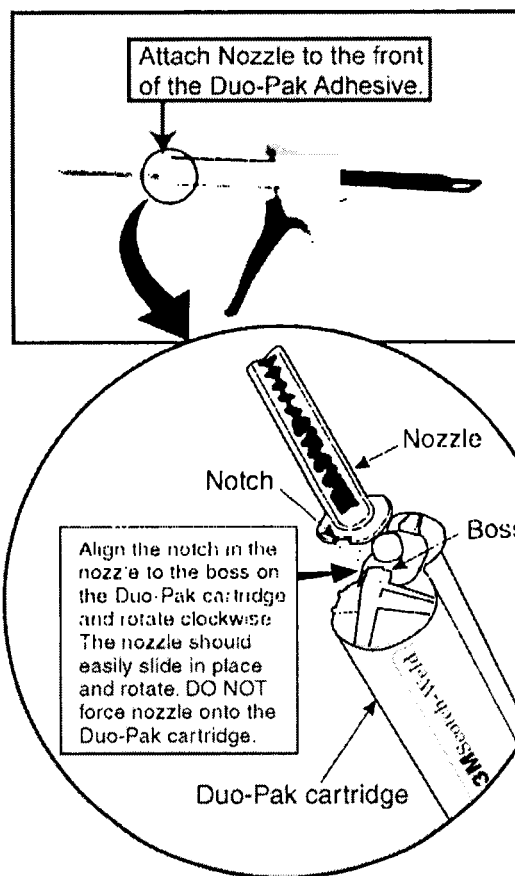

figure 6
6. Attach mixing nozzle as shown in **figure 6**.